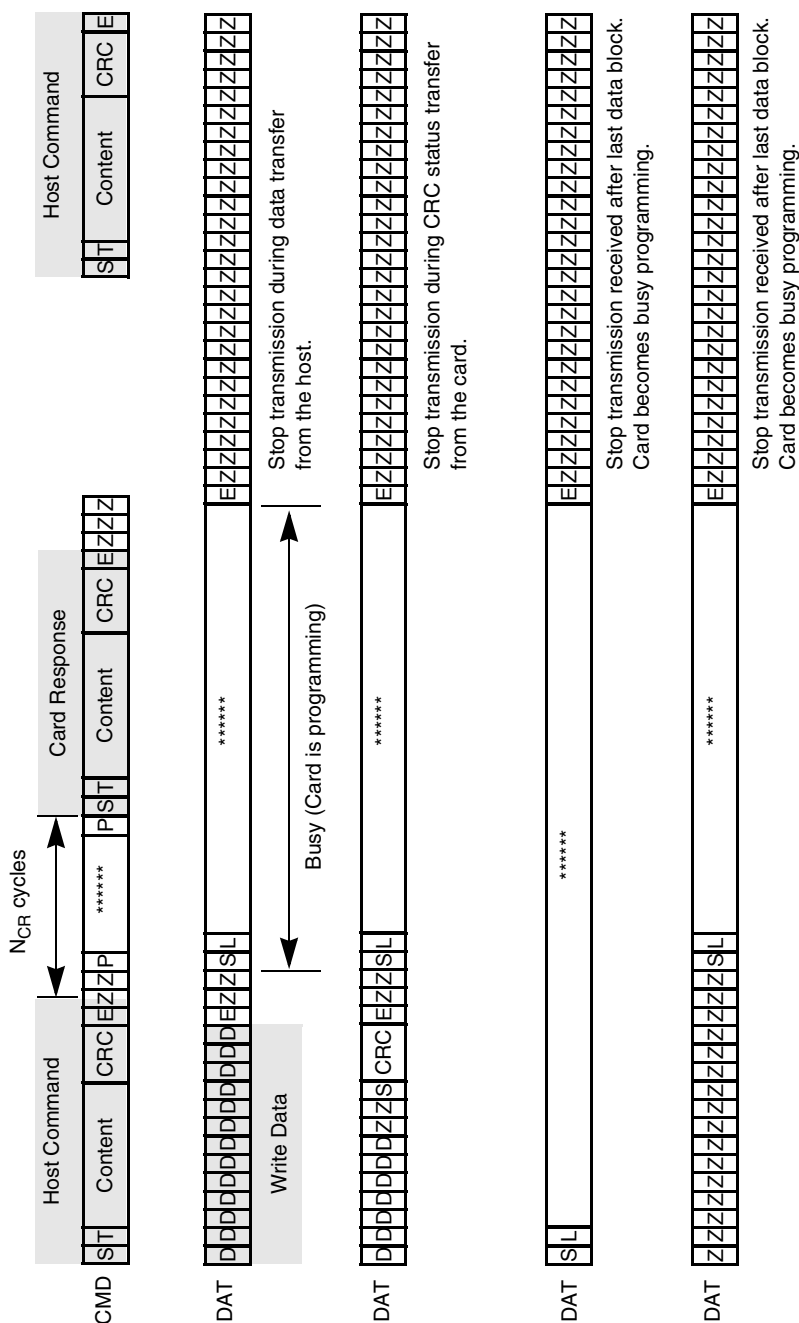

Figure 30. Stop Transmission During Different Scenarios
The card identification and card operation conditions timing are processed in open-drain mode. The card response to the host command starts after exactly  $N_{ID}$  clock cycles. For the card address assignment, SET\_RCA is also processed in the open-drain mode. The minimum delay between the host command and card response is  $N_{CR}$  clock cycles as illustrated in Figure 26. The symbols for Figure 26 through Figure 30 are defined in Table 26.
**Table 26. State Signal Parameters for Figure 26 through Figure 30**
Table 27. Timing Values for Figure 26 through Figure 30
**Table 27. Timing Values for Figure 26 through Figure 30 (Continued)**